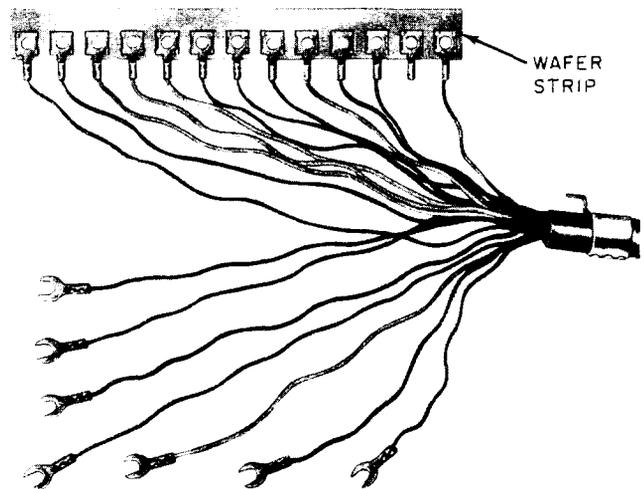

Fig. 9—Non-slotted Wafer Strip End of Mounting Cord, Early Type
2.17 The set ends of mounting cord conductors are furnished with individual spade tips or wafers for terminating on 588-, 589-, or 636-type keys (Fig. 9, 10, and 11).
3.06 Replace mounting cords of early manufacture (Fig. 9) as follows.